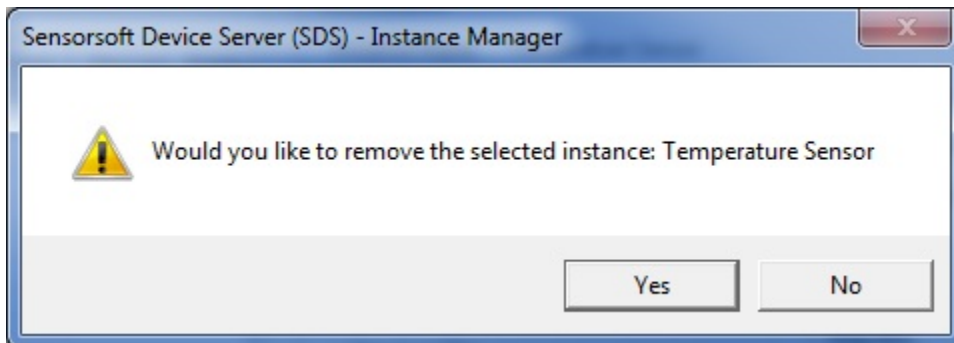

Figure 7
2. Click the ‘Remove Selected Instance’ button. The following message box shown in Figure 7 will appear on the screen. Click on the ‘Yes’ button to remove the selected instance.